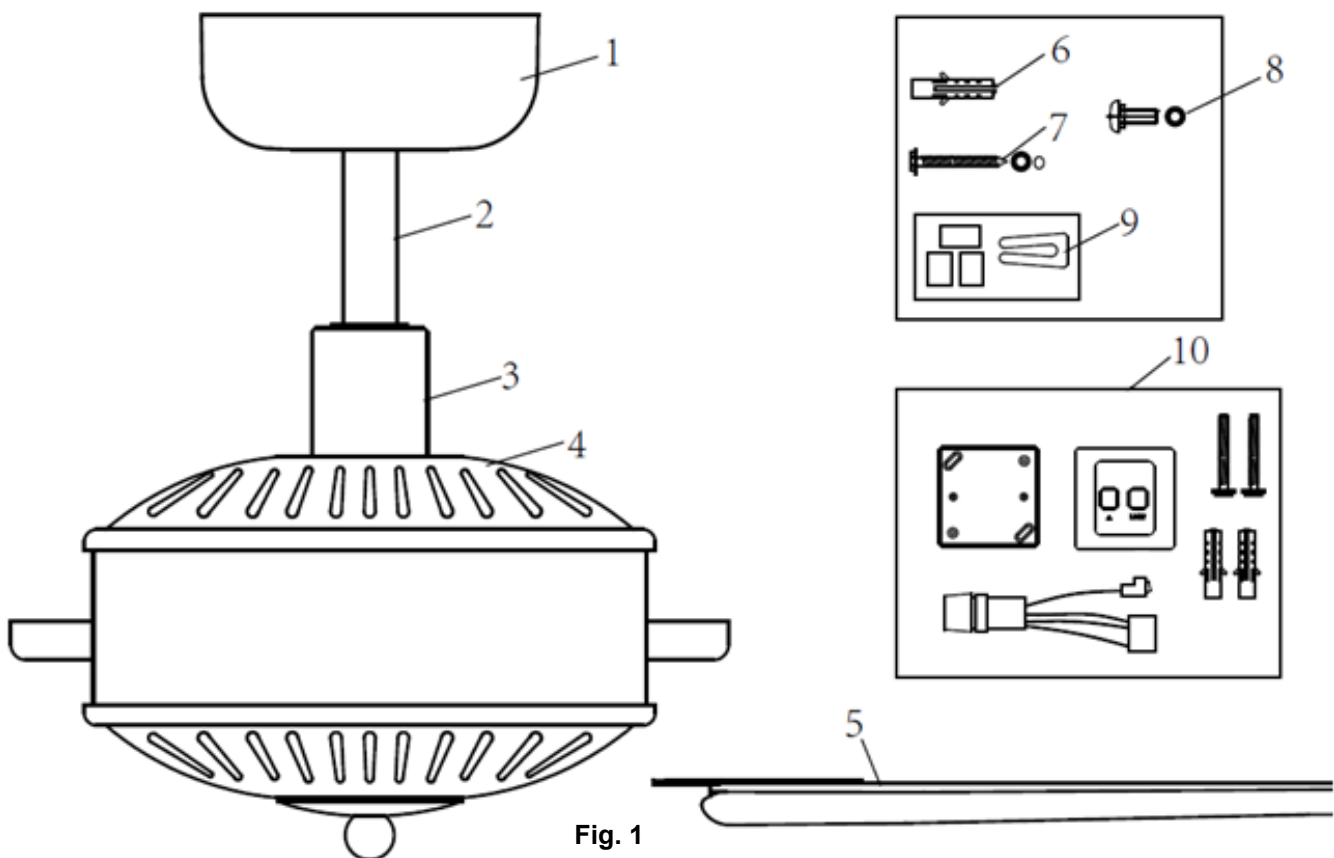

Fig. 1
- Examine the fan and carefully identify the parts. Please refer to Fig 1.